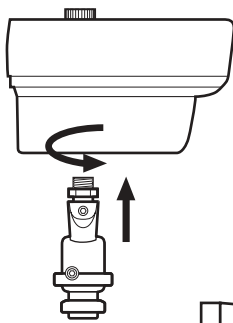
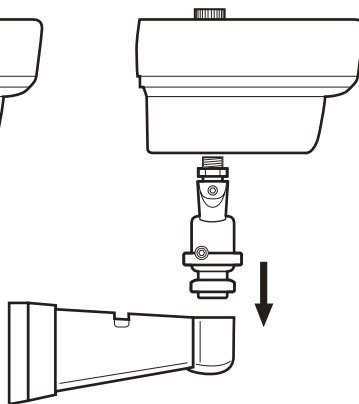

Fig. 2.
Fig. 3.
2. Screw the post bracket to the main housing and tighten the nut until secure (Fig. 2). Secure the lower part of the post on to the main bracket (Fig. 3). Mount the main bracket on to the wall using the fixing screws and wall plugs.